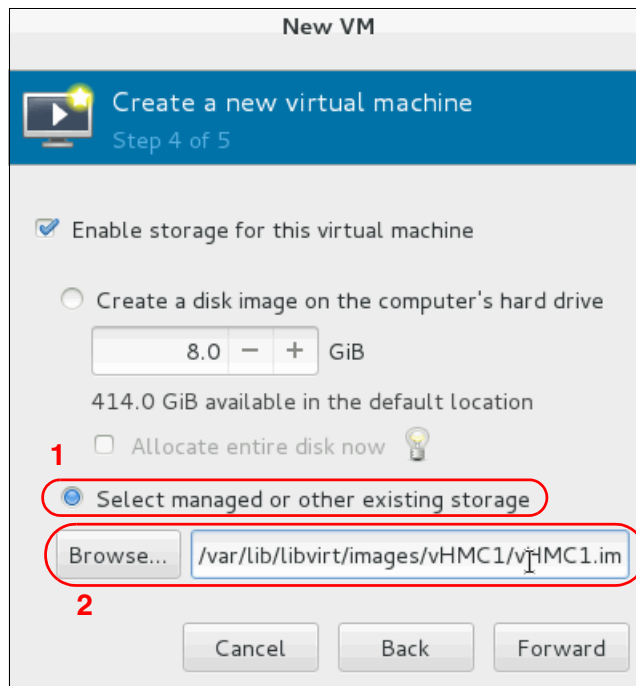

Figure 3-26 Locate the disk image file in the storage pool
6. In the next panel (Figure 3-26), choose **Select managed or other existing storage**, and click **Browse** to locate the `/var/lib/libvirt/images/vhmc1/vhmc1.img` file created in the initial step. Then, click **Forward**.